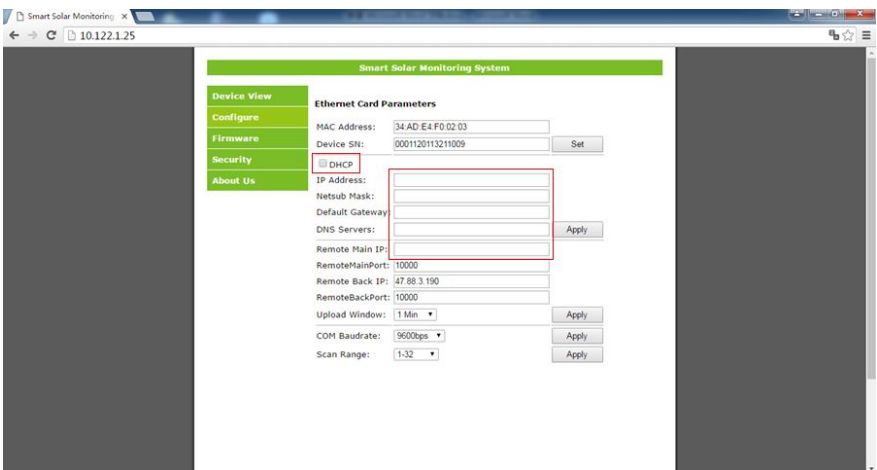

Figure 3-4
3.1.7 The Mac address and Device SN are the factory settings and should not be modified. The IP address/subnet mask/gateway setting is to connect to the local router. Remote Domain IP/Remote Port is the CPS webserver address and the US server domain IP is 47.88.3.190, the port number is 10000; the below figure 3-4 shows all the data need to be modified ;